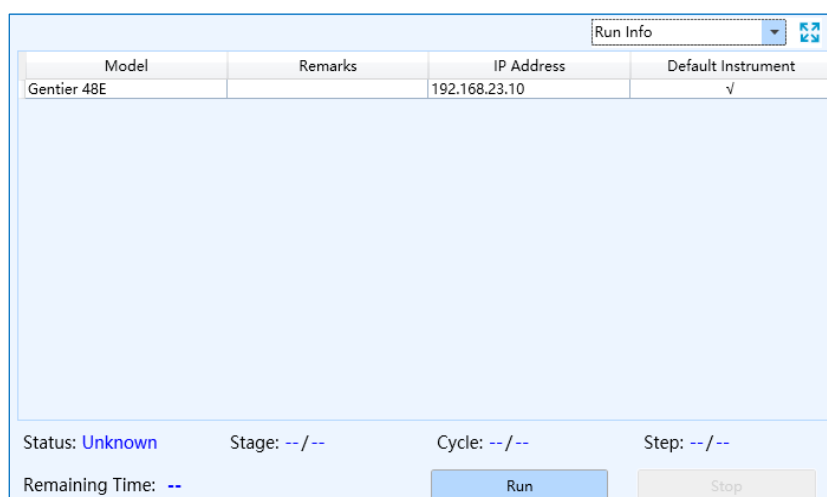

Figure D-7.4 Run Monitoring interface - Run Info function module
4. **Run Info:** display the current instrument information and the real-time running status, such as the *Stage*, *Step*, *Cycle* and *Remaining Time* of of the current experiment, as shown in figure D-7.4.